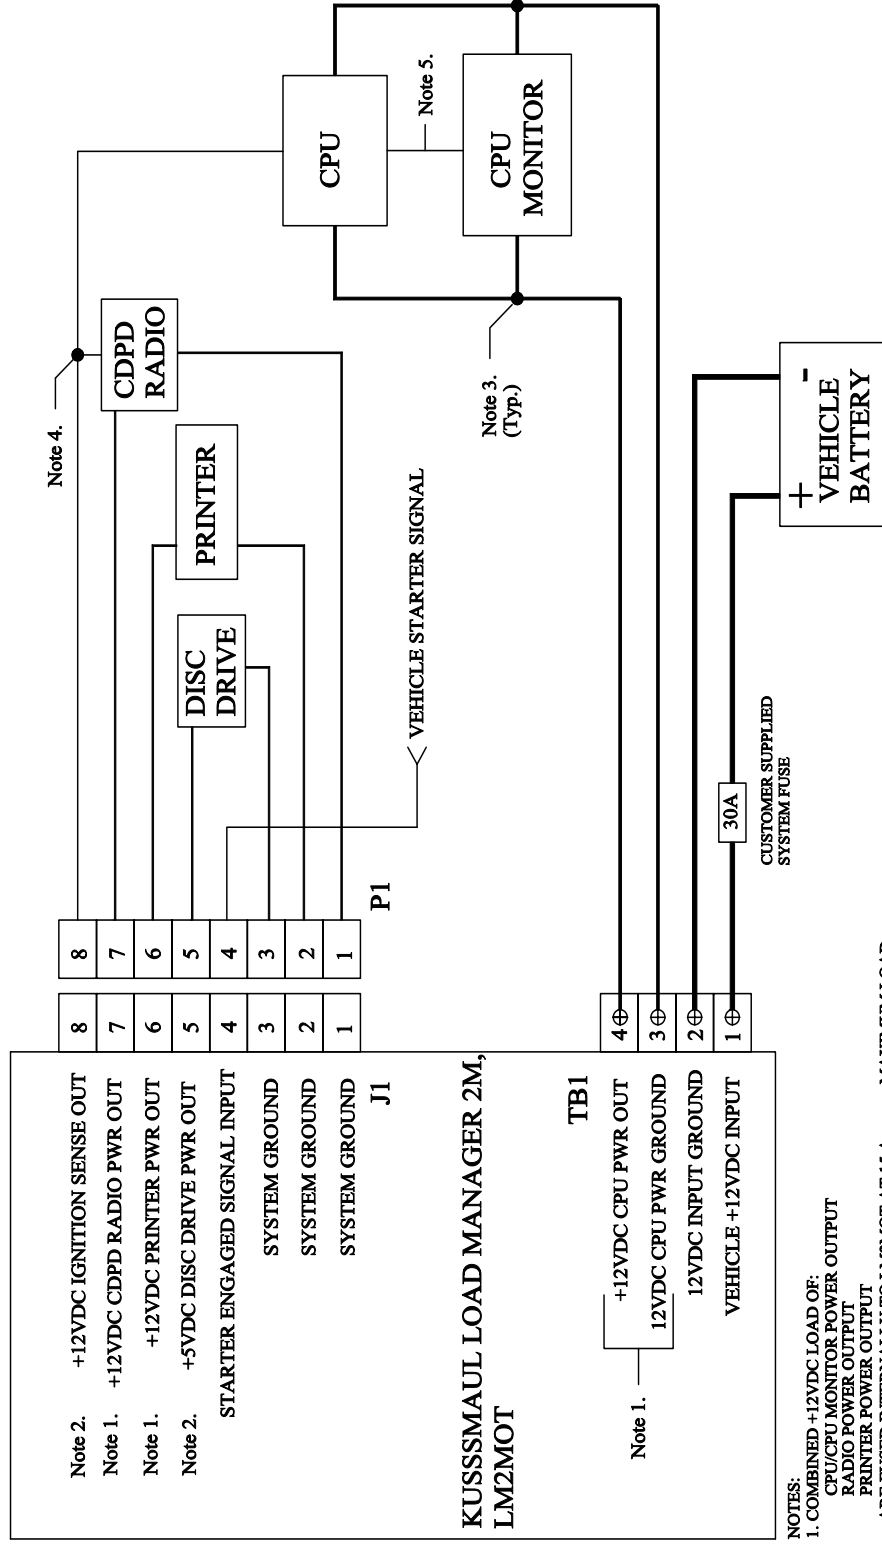

FIGURE 2
V_{BV} Threshold: The LM2MOT will remove Main and Auxiliary Output Power when the sensed system voltage at TB-1 (+VDC) and TB1-2 (Ground), V_{BV}, falls below a preset threshold herein referred to as "drop-out" voltage. Main Power Output V_{BV} drop-out voltage thresholds are programmable from 10.5 to 12.5VDC with the Auxiliary Power Output V_{BV} drop-out voltage fixed at the Main Power Output V_{BV} drop-out voltage +.50VDC and hence are 11.0 to 13.0VDC. These V_{BV} drop-out thresholds are programmable by an eight (8) position dip switch selector located on the LM2MOT printed circuit board assembly. Refer to FIGURE 2 for Main and Auxiliary Power Output drop-out voltages as established by the eight (8) position dip switch selector "S1". Main and Auxiliary Power outputs are restored when V_{BV} exceeds the respective drop-out thresholds by .50 VDC.
The Load Manager 2MOT also keeps track of time. When the engine alternator is not running the battery voltage will drop below 12.87 VDC and the Auxiliary Power Output will be removed after the time set by the four (4) position dip switch selector located on the LM2MOT printed circuit board assembly has expired. Refer to Figure 2 for Auxiliary Power Output drop-out time as established by the four (4) position dip switch selector "S2". The Main Power Output will be removed 6 minutes after the Auxiliary Power Output is removed if the engine sensor triggers a timed load management removal of load power. This timer is reset and has no effect if the sensed system voltage at TB-1 (+VDC) and TB1-2 (Ground), V_{BV}, falls below the Load Management by Voltage setting prior to the time set by time selector S2.
The LM2MOT is shipped with the following Load Management by Voltage and Load Management by Time Settings. Reference Figure 2.